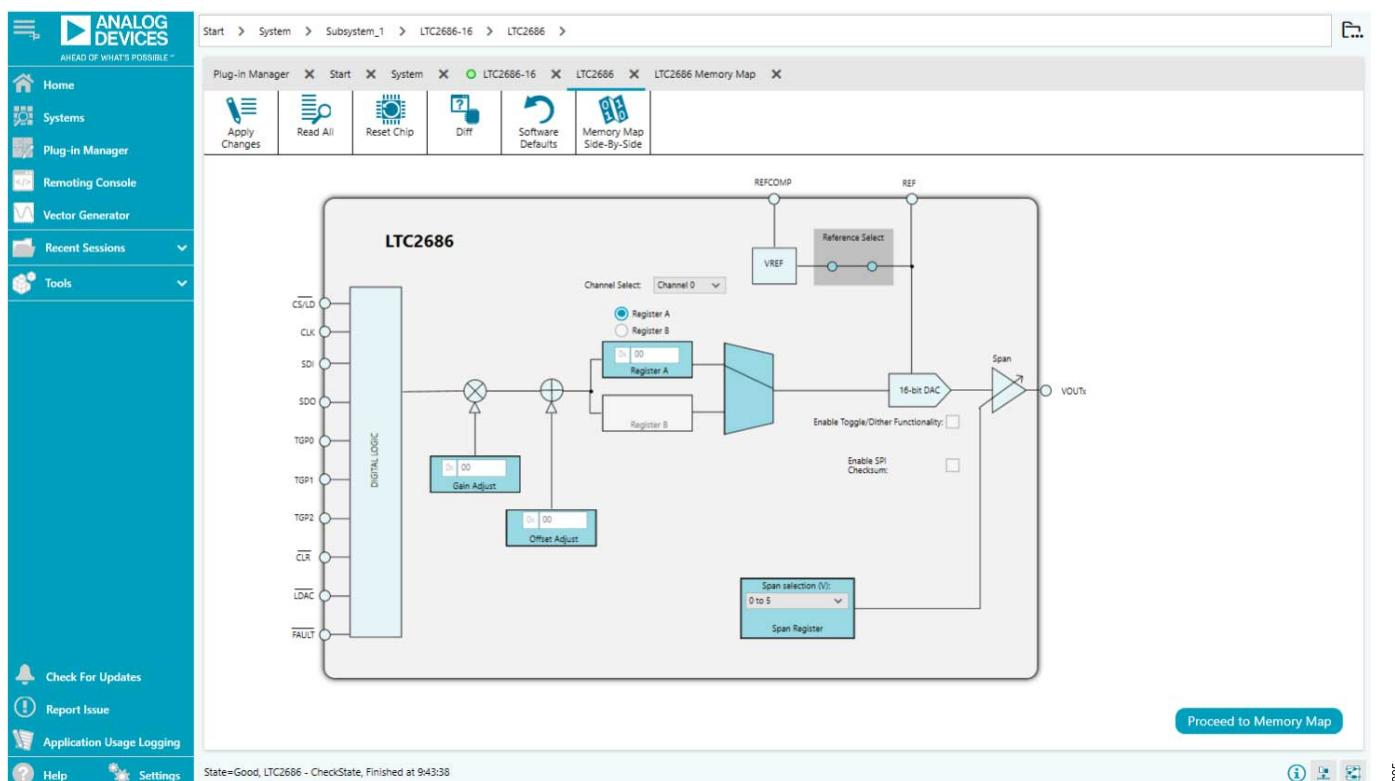
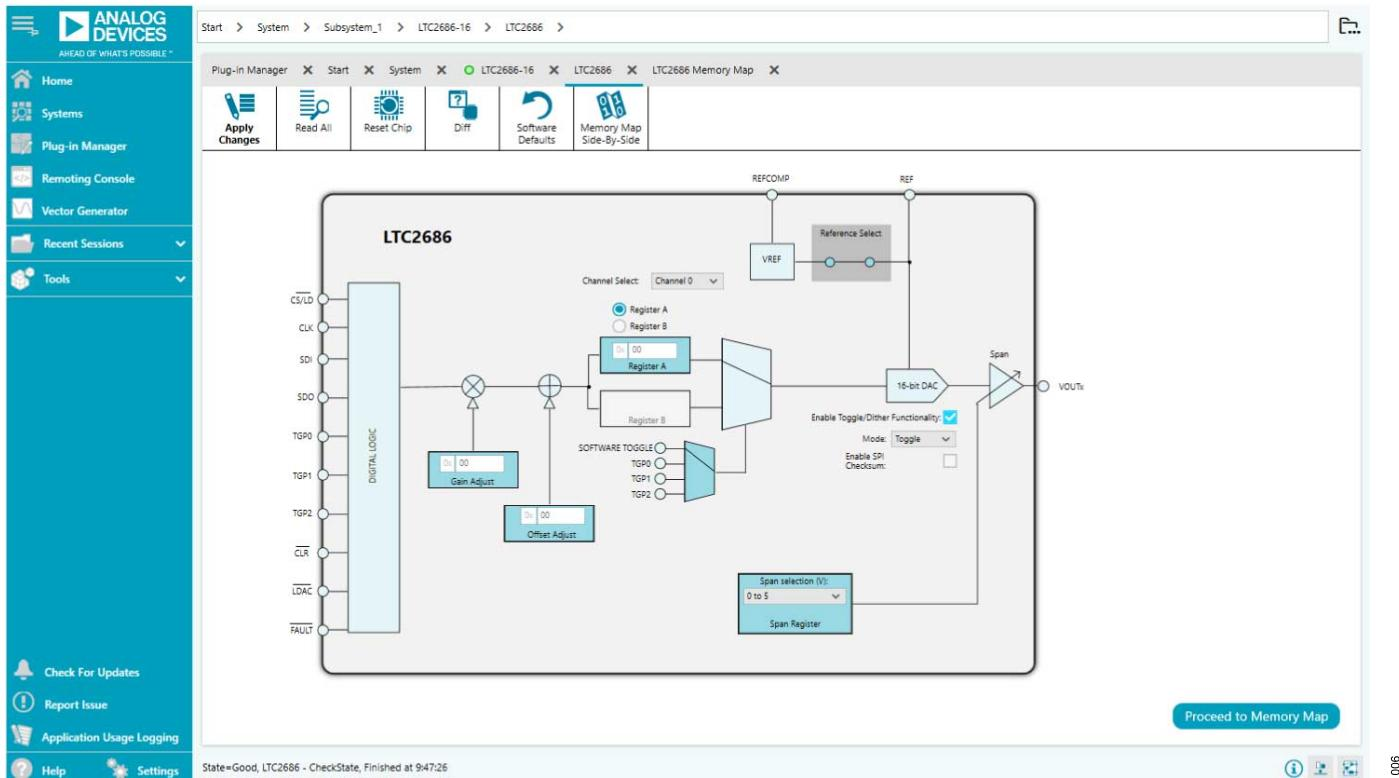
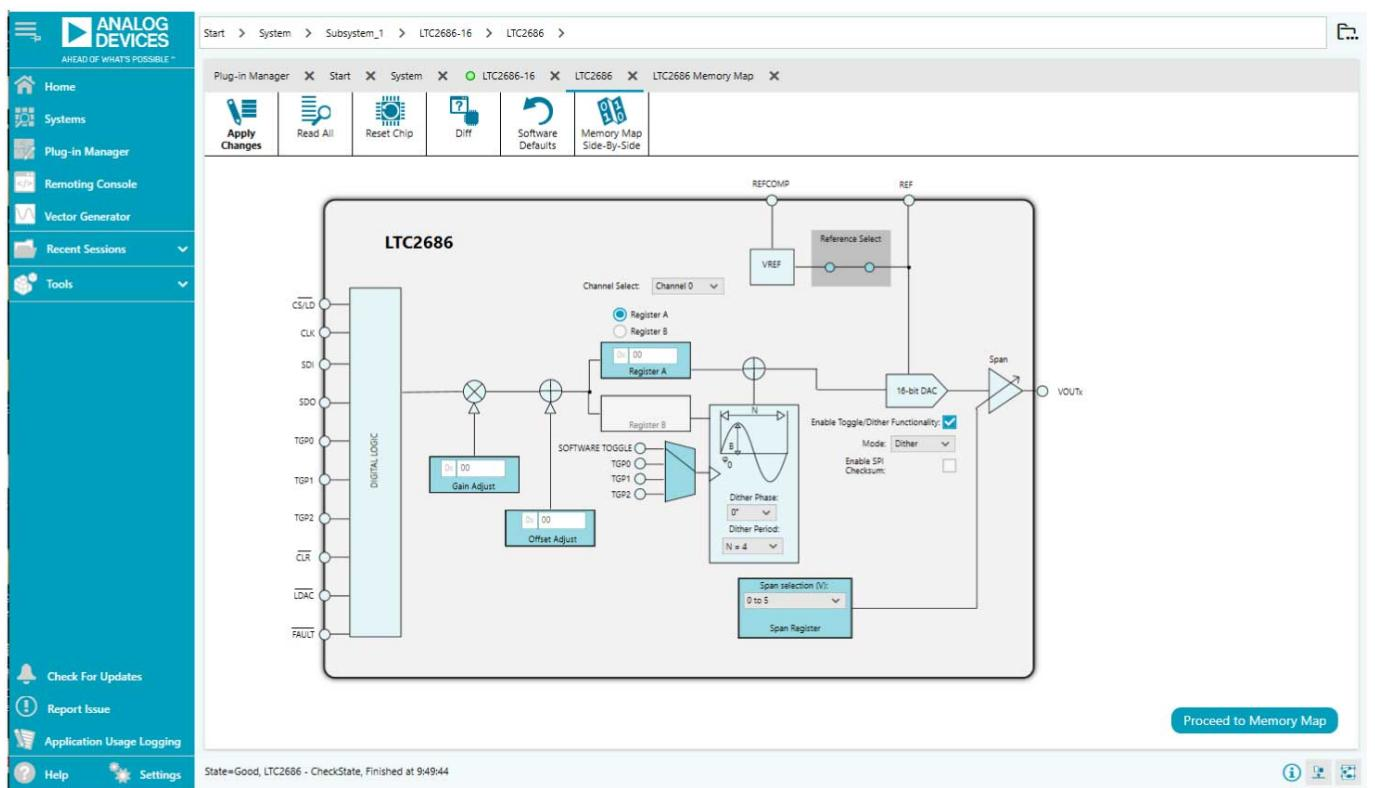

Figure 5. ACE Evaluation Software Main Window
Figure 6. Toggle View
Figure 7. Dither View
To start the ACE evaluation software, from the **Start** menu, click **Analog Devices > ACE**. The software window opens (see Figure 4) until the software recognizes the DC2904A-B. When the software recognizes the DC2904A-B, the main software window in Figure 5 opens.
In the main ACE evaluation software window (see Figure 5), each channel can be controlled. Various settings for the LTC2686 are available in this window, allowing the user to configure the output range, output voltage, gain adjustment, offset adjustment, toggle options, and dither options of each channel.
The DC2904A-B uses the LTC2686 internal reference to set the full-scale range. To apply an external reference, click the box labeled **Reference Select** (see Figure 5).
2. Select the desired range for the selected channel using the **Span selection (V)** dropdown box (see Figure 5).
2. Type the desired value into the **Register A** text box (see Figure 5).
2. Type the desired hexadecimal value into the **Register A** (or **Register B**) text box (see Figure 5).
2. Type the desired hexadecimal offset or gain adjust value into the **Offset Adjust** or **Gain Adjust** text boxes (see Figure 5).
Toggle mode can be enabled by selecting the **Enable Toggle/Dither Functionality** check box (see Figure 5). This check box enables the toggle view shown in Figure 6. The toggle signal can then be applied to the selected pin or supplied internally.
After enabling the toggle view shown in Figure 6 as described in the Enabling Toggle Mode section, select the dither mode from the **Mode** dropdown box to bring up the dither options (see Figure 7).
To access the **LTC2686-16 Memory Map** view, click the **Proceed to Memory Map** button from the software main window (see Figure 5).